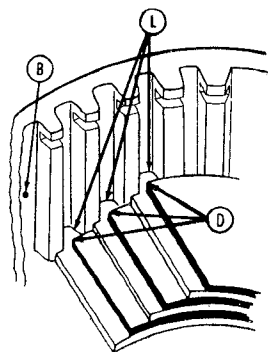

Fig. 152—Cross-sectional view of Multi-Power clutch showing recommended method of assembly. Refer to text.
When reinstalling piston (7), carefully compress outer seal ring (8) using a feeler gage blade or similar tool while working piston into clutch housing. When assembling clutch plates, note that clutch housing contains six bleed holes (B—Fig. 152) that are evenly spaced around the housing and that drive plates have six external lugs (L) located one spline to the right (clockwise) from bleed holes. Place the six piston return springs on the lugs of the first drive plate. Install friction discs and remaining two drive plates alternately, staggering the lugs of each plate one spline further to the right of the plate previously installed as shown in Fig. 152. Make certain that return springs contact only the first plate, then install retainer (3—Fig. 151) and snap ring (2).